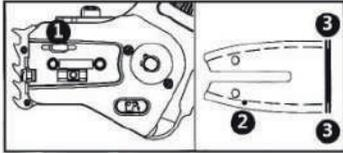

Figure 7
- f) Clean the oil outlet (1), oil inlet (2) and back groove of the bar (3) with a soft brush (Figure 7)